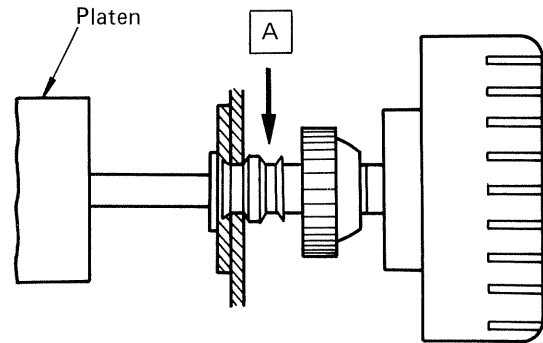

Figure 3
7. Press the Latch Knobs (located on the left and right sides of the Tractor Feed - - see Figure 2) towards the front of the Printer. Gently position the Tractor Feed over the Platen Shaft and release the Knobs. The Tractor Feed will then be attached to the Platen Shaft. (See Figure 3)